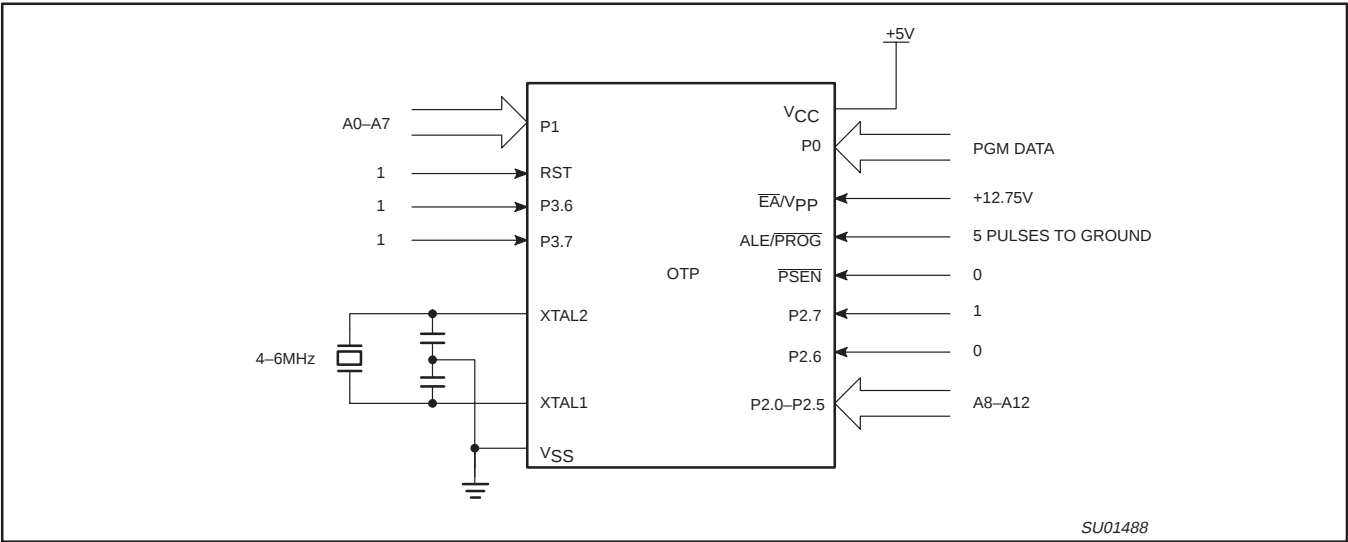
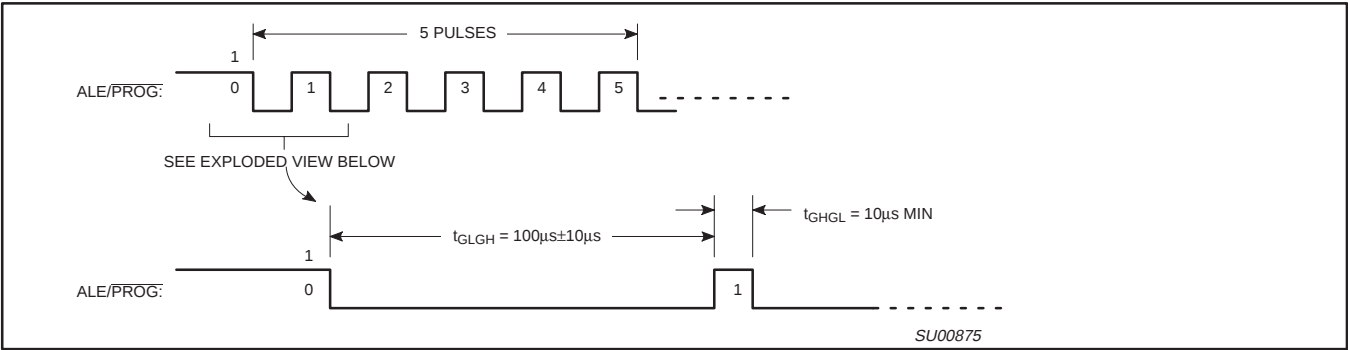
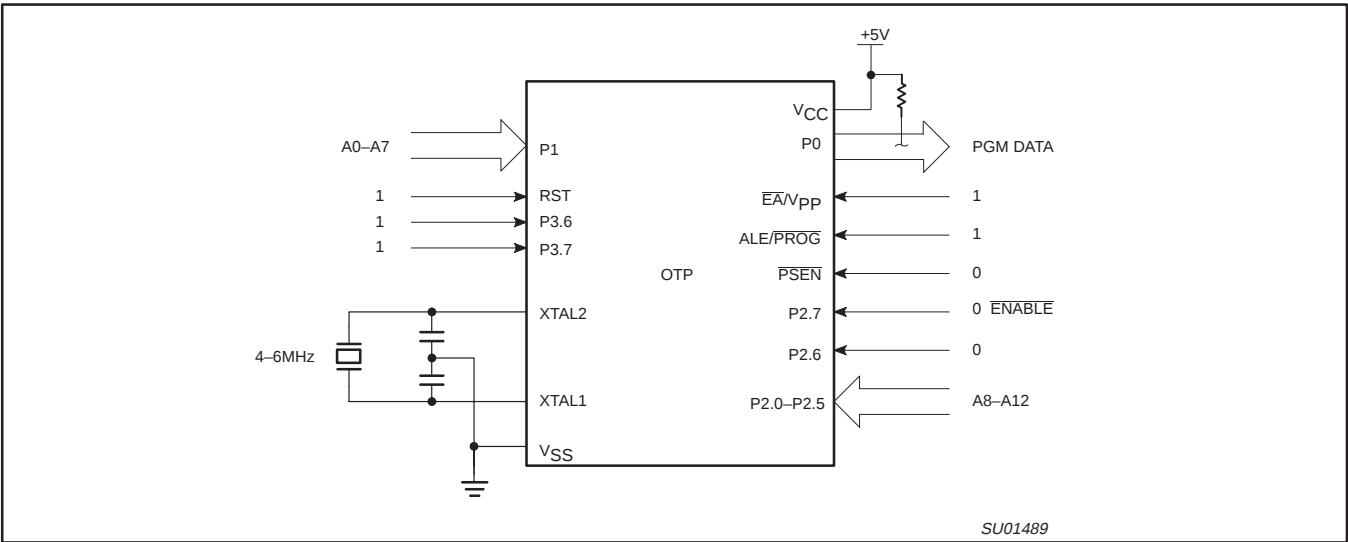

Figure 40. Programming Configuration
Figure 41. PROG Waveform
Figure 42. Program Verification
Table 9 shows the logic levels for reading the signature byte, and for programming the program memory, the encryption table, and the security bits. The circuit configuration and waveforms for quick-pulse programming are shown in Figures 40 and 41. Figure 42 shows the circuit configuration for normal program memory verification.
The setup for microcontroller quick-pulse programming is shown in Figure 40. Note that the device is running with a 4 to 6 MHz oscillator. The reason the oscillator needs to be running is that the device is executing internal address and program data transfers.
The address of the EPROM location to be programmed is applied to ports 1 and 2, as shown in Figure 40. The code byte to be programmed into that location is applied to port 0. RST, $\overline{PSEN}$ and pins of ports 2 and 3 specified in Table 9 are held at the 'Program Code Data' levels indicated in Table 9. The ALE/ $\overline{PROG}$ is pulsed low 5 times as shown in Figure 41.
If security bits 2 and 3 have not been programmed, the on-chip program memory can be read out for program verification. The address of the program memory locations to be read is applied to ports 1 and 2 as shown in Figure 42. The other pins are held at the 'Verify Code Data' levels indicated in Table 9. The contents of the address location will be emitted on port 0. External pull-ups are required on port 0 for this operation.
- * FOR PROGRAMMING CONFIGURATION SEE FIGURE 40.
- FOR VERIFICATION CONDITIONS SEE FIGURE 42.